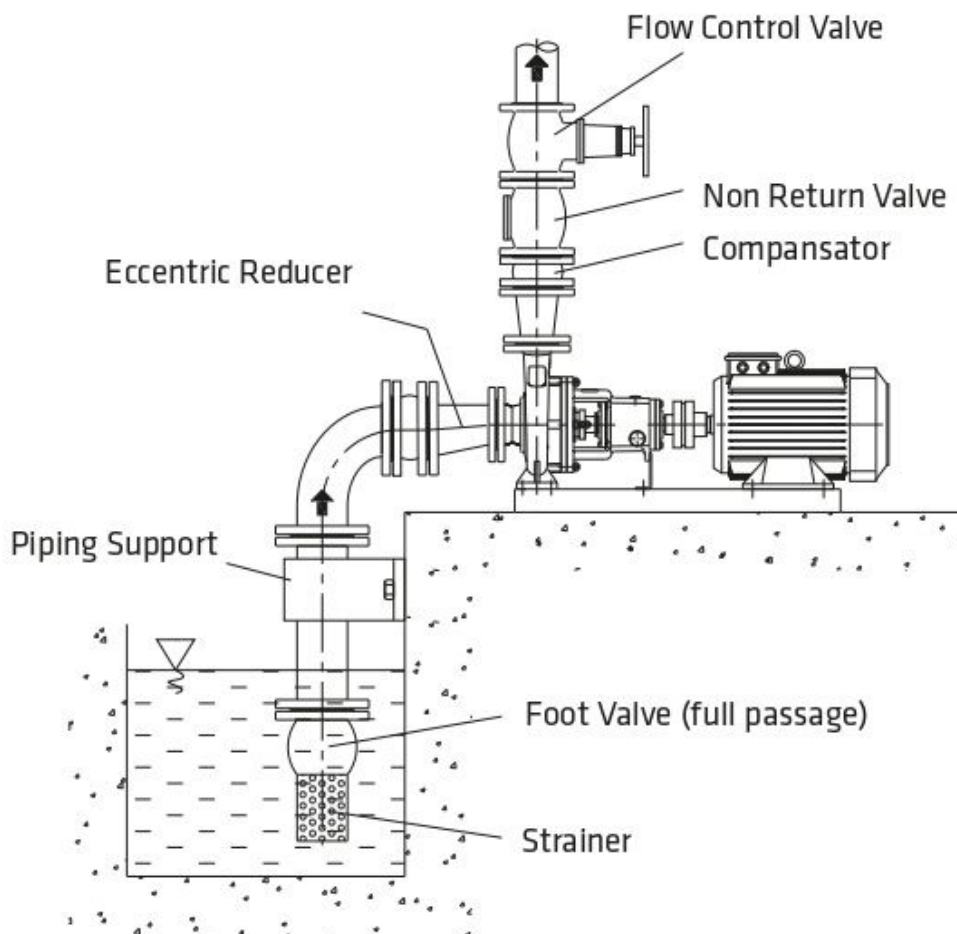

Figure 3a. Suction Lift
- The suction pipe should be definitely watertight and should not be arranged in a way to cause formation of air pockets. In other words, if it is supplied from a reservoir higher than it (system with elevated suction/supply), the suction pump should be slightly declined towards the pump; and if the pump is supplied from a reservoir lower than it (system with suction depth), then the suction pipe should be gradually inclined slightly towards the pump. **Figure 3a and 3b**